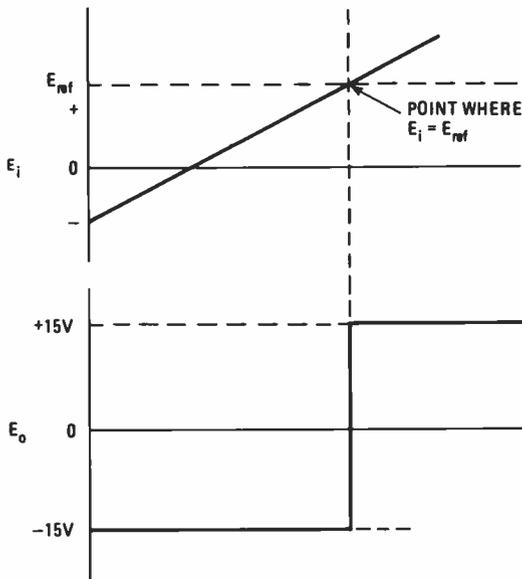

Fig. 15—These are the switching waveforms in an op-amp comparator.
31. (E_{ref} , E_i) Figure 15 shows some input and output waveforms that will better illustrate the operation of a comparator. The reference is a fixed DC level, as is often the case.